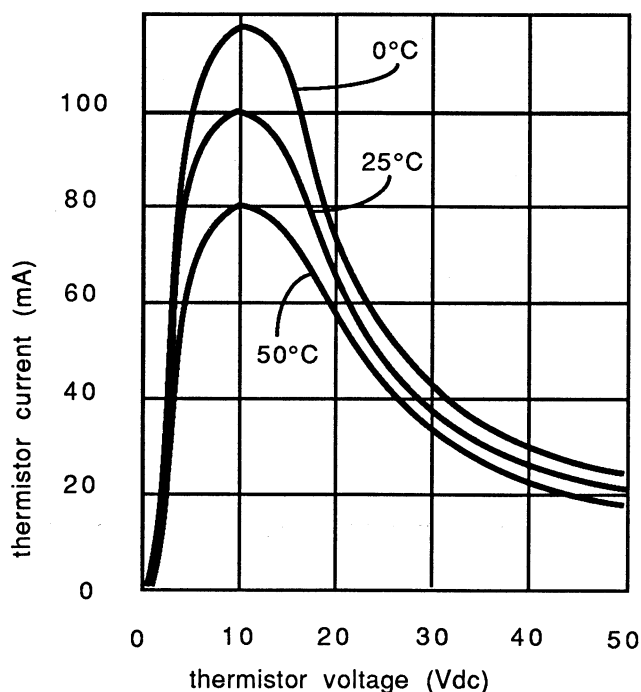

figure 5. Current-limiting curve
- 1.01 This addendum to practice section 837001, revision B (dated 2 December 1982), is issued to inform customers that short loop station-side applications may cause DLL station current to foldback to a low output current level (less than 100mA). Figure 5, in Section 2, is revised to reflect the effects of changes in ambient temperature on the performance of the foldback current level.
- 2.02 Replace the existing figure 5 with the following new figure 5.